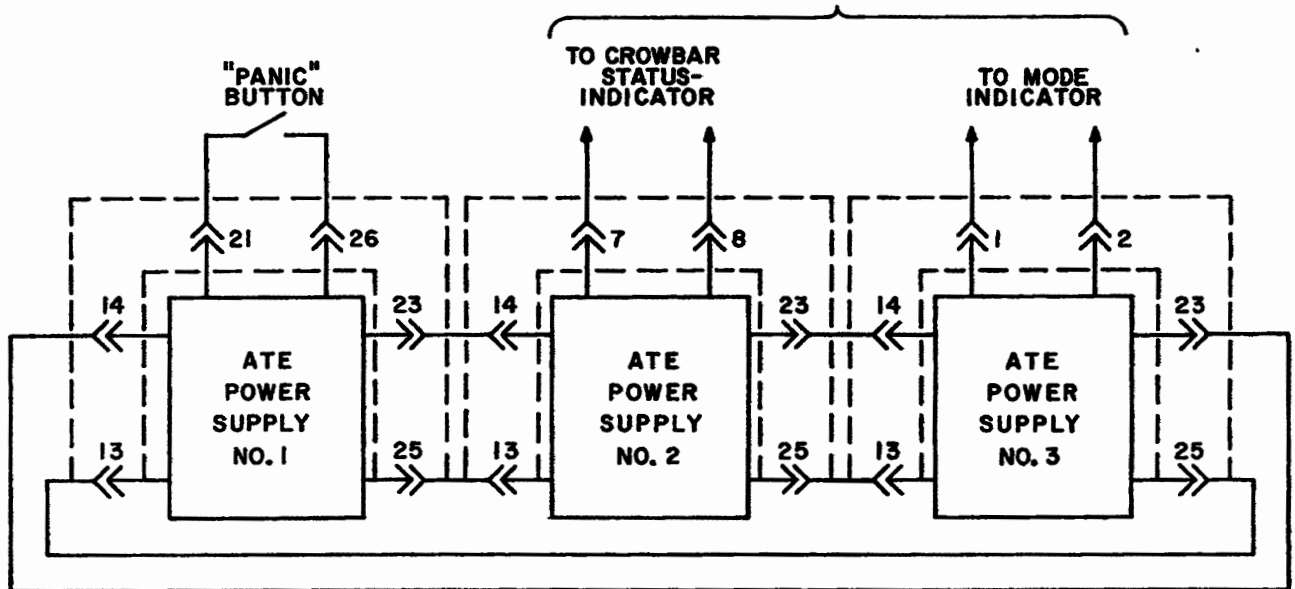

FIG. 3-19 MULTIPLE POWER SUPPLY FAULT DETECTION LOOP
- 3-92 In applications where several power supplies are used it is often necessary to shut down *all* power supplies if a malfunction on a *single* supply forces its shut-down. Sometimes, a "PANIC BUTTON" arrangement is desired, where *all* system power supplies can be shut-down with a single manual switch or a common signal from a controller. ATE power supplies are ideally suited for multi-unit poeration since all necessary crowbar control circuit connections are terminated at the rear PROGRAMMING CONNECTOR (PC-12). The crowbar control connections in a multi-unit application can be externally wired to form a closed loop fault-detection circuit as shown in FIG. 3-19. Although only three ATE power supplies are shown, the control loop may be extended to include as many ATE power supplies as are required.
3-93 In addition to the crowbar terminals, optically isolated flag signals are available at the PROGRAMMING CONNECTOR (PC-12) of each ATE power supply. These signals may be used to indicate the crowbar status and the operating mode of each ATE power supply (See FIG. 3-19).